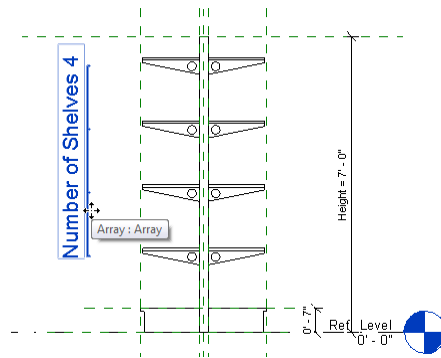

Figure 35
9. Label the array with the same **Number of Shelves** parameter (see Figure 35).